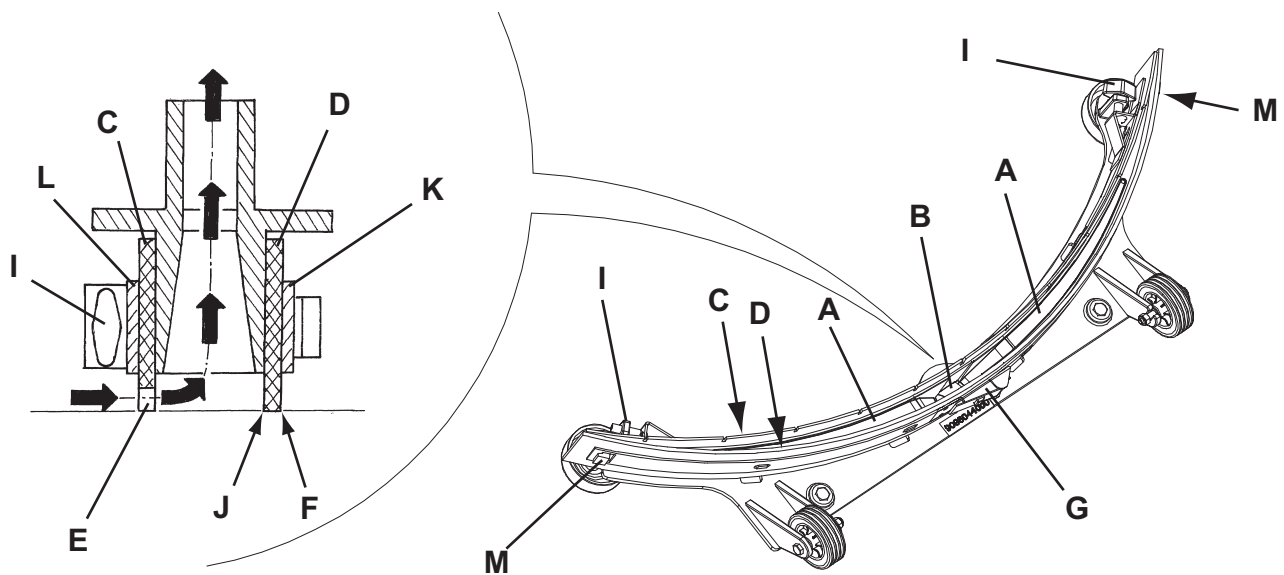

Figure 3
2. Disconnect the power supply cable (3) from the electrical mains and place it on the holder (4).
3. Lower the squeegee (21) with the lever (7).
4. Loosen the handwheels (22) and remove the squeegee (21).
5. Disconnect the vacuum hose (11) from the squeegee.
6. Wash and clean the squeegee (Fig. 3). In particular, clean the compartments (A) and the vacuum hole (B) from dirt and debris. Check the front blade (C) and the rear blade (D) for integrity, cuts and tears; if necessary replace them (see the procedure in the following paragraph).
1. Clean the squeegee (Fig. 3) as shown in the previous paragraph.
2. Check that the edge (E, Fig. 3) of the front blade (C) and the edge (F) of the rear blade (D) lay down on the same level, along their length; otherwise adjust their height according to the following procedure:
- Remove the tie rod (G) and disengage the fasteners (M) to adjust the rear blade (D); then engage the fasteners and install the tie rod.
- Loosen the handwheels (I) and adjust the front blade (C); then tighten the handwheels.
3. Check the front blade (C) and rear blade (D) for integrity, cuts and tears; if necessary replace them as shown below. Check the front corner (J) of the rear blade for wear; if necessary, overturn the blade to replace the worn corner with an integral one. If the other corners are worn too, replace the blade according to the following procedure:
- Remove the tie rod (G), disengage the fasteners (M) and remove the retaining strip (K), then replace/overturn the rear blade (D).
1. Disconnect the power supply cable (3) from the electrical mains and place it on the holder (4).
3. Open the cover (18) to washing position (L, Fig. 3).
4. Wash with clean water the cover (A), the tanks (B and C) and the vacuum grid with automatic shut-off float (D). Drain the water from the tanks with the hoses (12 and 13).
5. If necessary, release the fasteners (E) and open the grid (D), recover the float (F), clean all the components and then reinstall them.
6. Check the tank cover gasket (G) for integrity.